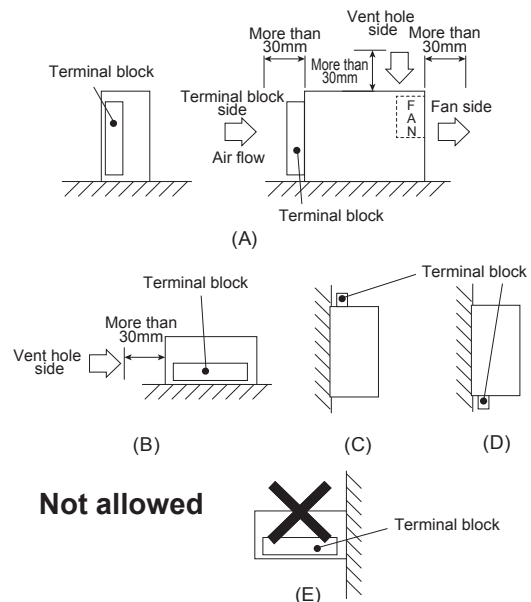
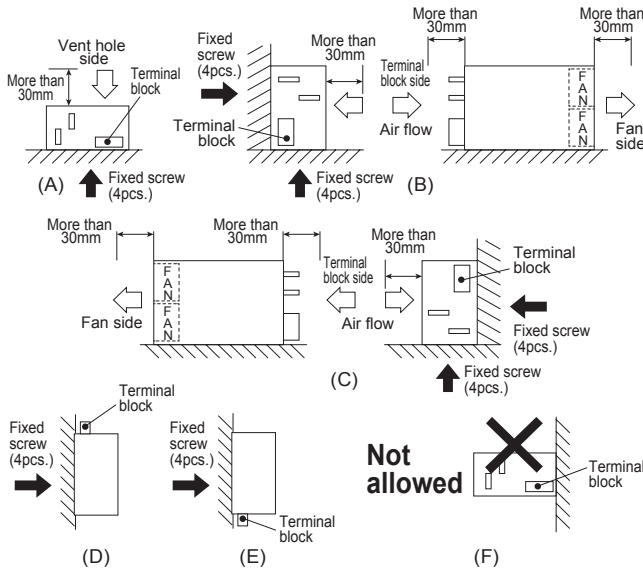

Fig.3.3 Installation method (PJA300F)
Fig.3.5 Installation method (PJA1000F/PJA1500F)
- When mounting the power supply with screws, it is recommended that this be done as shown in Fig.3.3 - Fig.3.5. If other methods are used, be sure the weight of the power supply is taken into account.